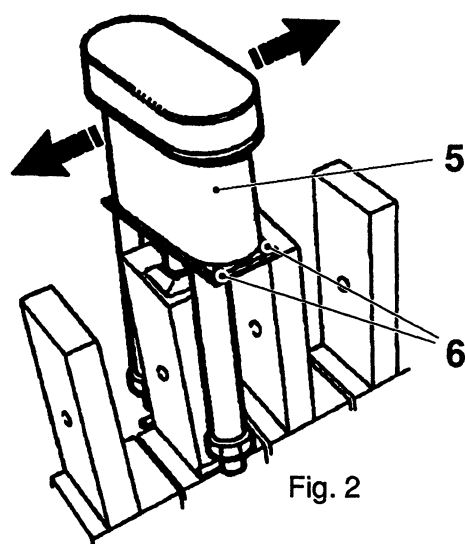

Fig. 2
- Set the air nozzle (1) by loosening the screws (6) and shifting the FS element (5), see fig. 2. Tighten the screws.
- Set the air nozzles (2) by loosening the screws (4) and shifting the nozzles sideways.